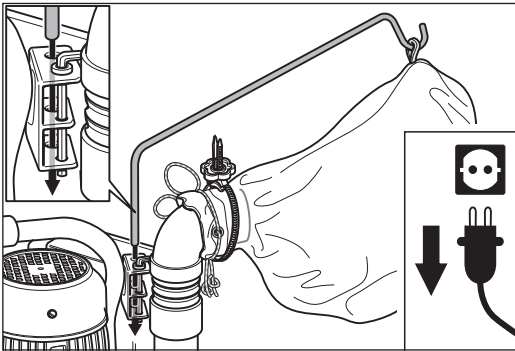

Fig. 6 Inserting the cable rod into the proper bracket.
- 7 Insert the cable rod into the proper bracket on the pipe bend (rear side of the machine) next to the Allen key (Fig. 6).